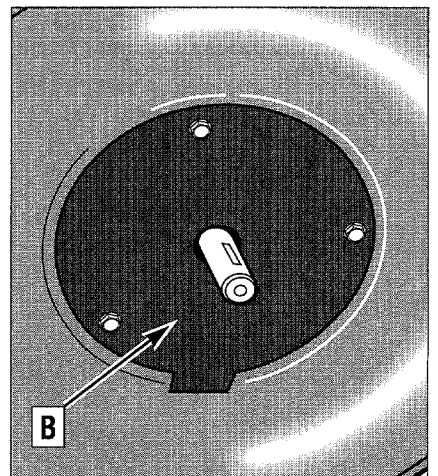

Figure 5-10: Remove grass shield (on models so equipped).
G. On models so equipped, remove the grass shield (**B**, Figure 5-10) by removing the three self-threading screws (use a 3/8" wrench) that secure the shield.
F. Reinstall the grass shield (if so equipped) and tighten the three mounting screws securely (see Figure 5-10).